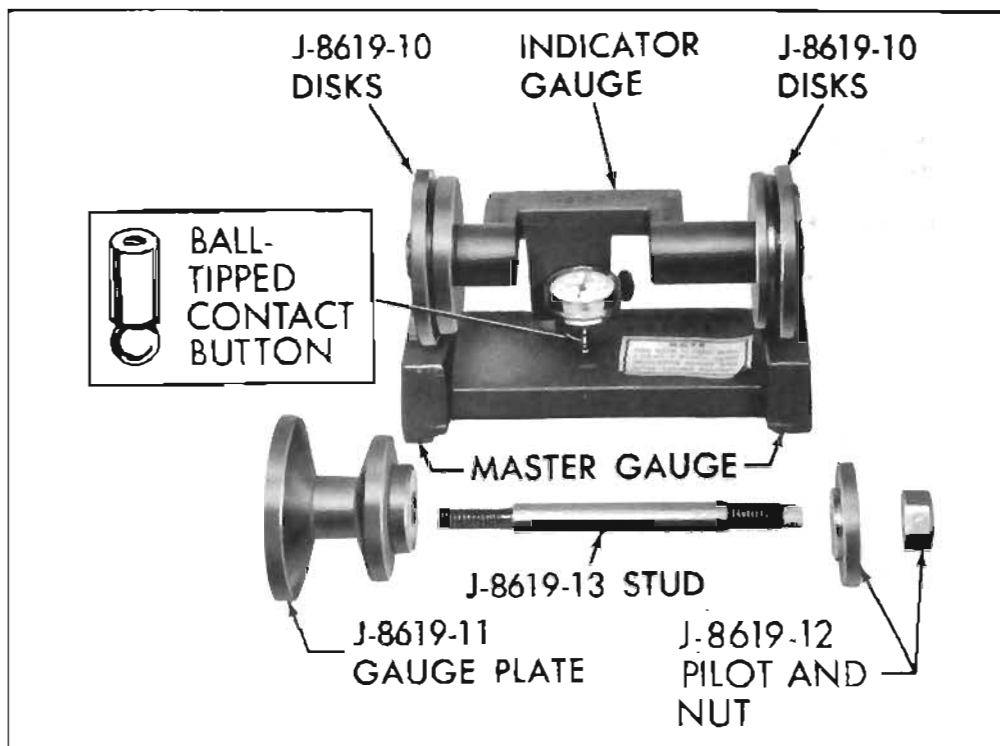

Figure 6-19—Pinion Setting Gauge
Disks, (1) J-8619-11 Gauge Plate, J-8619-12 Pilot and Nut with J-8619-13 Stud. See Figure 6-19. Although production pinions are marked, neither production nor service pinions have a gauging tooth. The pinion setting gauge provides in affect a nominal or zero pinion as a gauging reference.
2. Install the J-8619-10 Disks on the indicator gauge. Install the small ball-tipped contact button on the stem of the dial indicator and mount the dial indicator on the indicator gauge. See Figure 6-19.